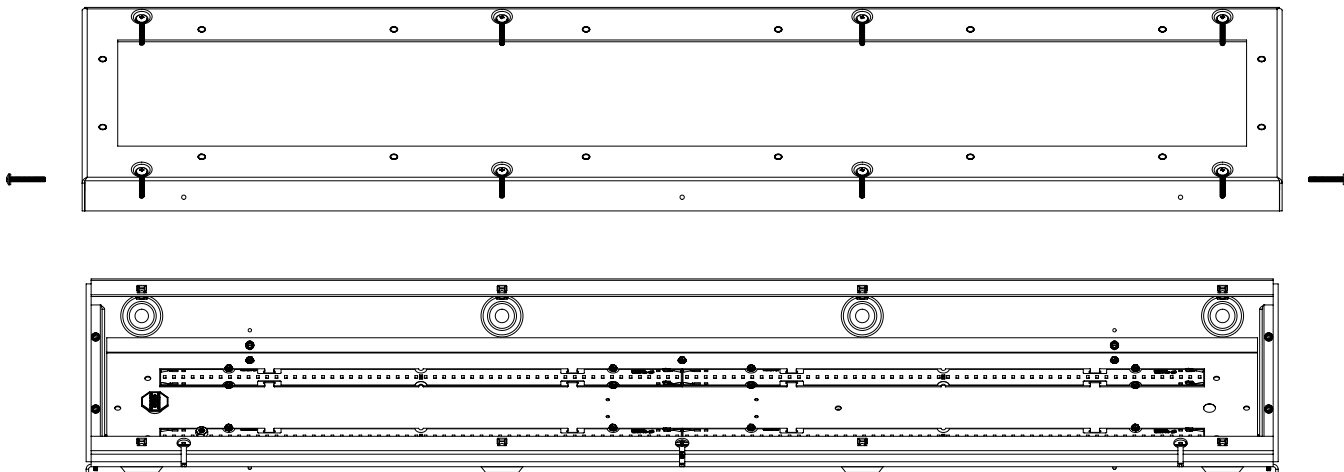

Figure 1.
Step 2. Remove door screws and remove door. Save the screws, washers, and O-rings as you will need them to reinstall the door. (Figure 1)